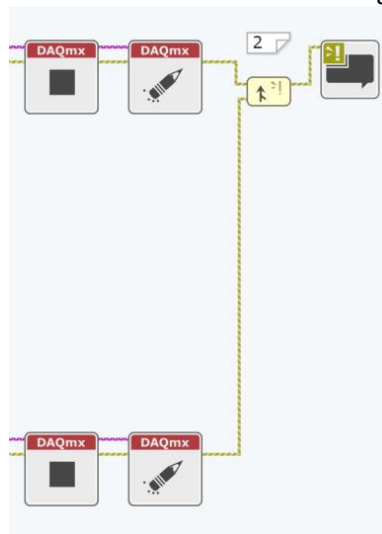

Figure 5-35 All your error wires are combined so the Simple Error Handler can display the errors to the user.
- Wire the error wire from the output of the bottom DAQmx Clear Task VI into the second input of the Retain First Error function. Your code should look like Figure 5-35.